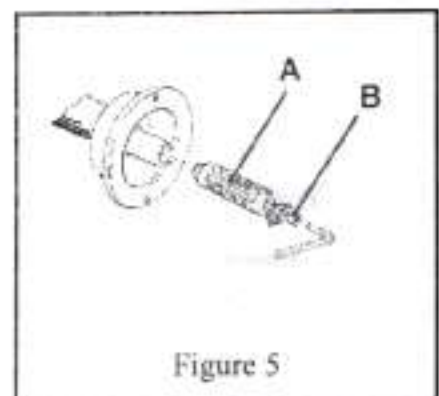

Figure 5
- Shaft: Take out the threaded end and bolts from the accessory case. Mount them firmly according to figure 5.